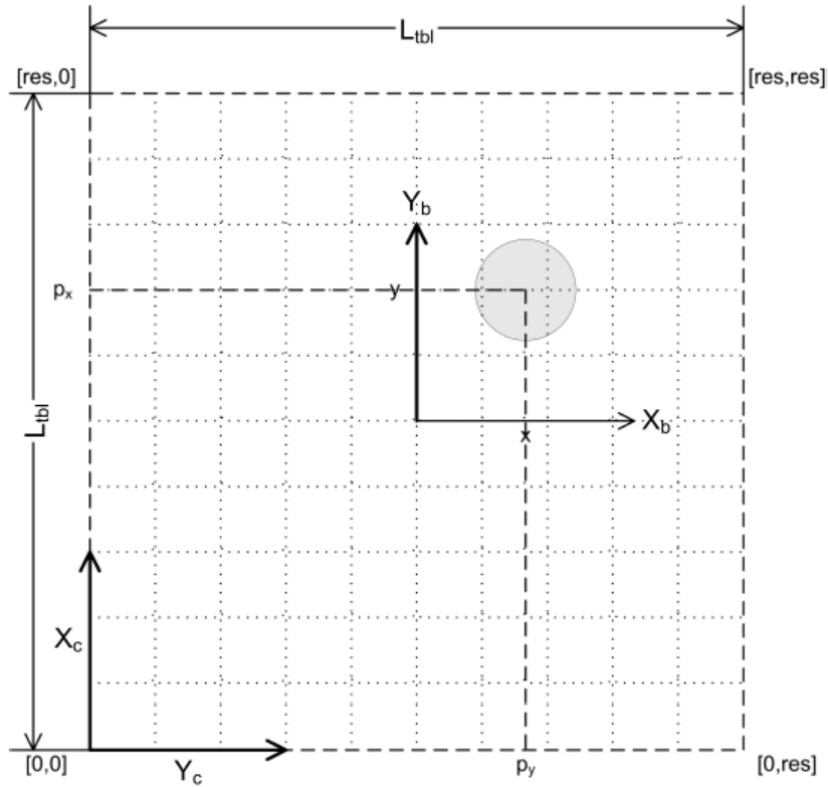
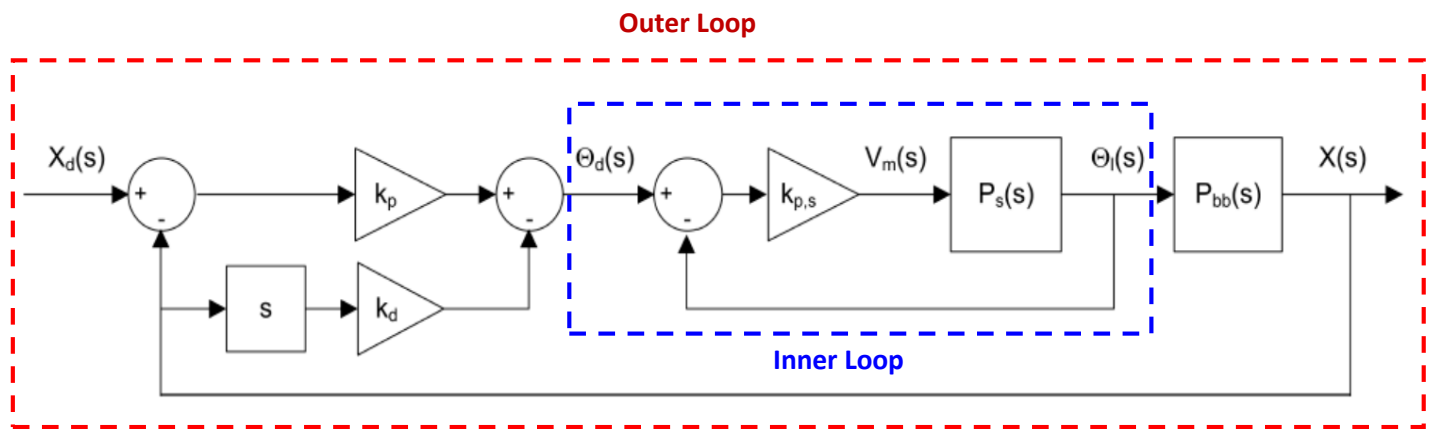

Figure 6: Transition between the camera and model coordinate systems
Figure 7: Block diagram of a single system axis
As depicted in figure 6, the camera calculates the position of the ball through a pixel-based system, as the data output is the pixel index (p_x, p_y). That will translate to metric position using the camera resolution, res (that is the amount of pixels in every axis). We would want to work in a square-based resolution (i.e. the same amount of pixels for x and y axes).
NOTE – the camera's pixel index is not intuitive, meaning that the x and y axes have changed positions (see figure 6).
1. The loop at figure 7, and the content of equation (6), depict a situation where the derivative term applies only on the feedback signal and not the whole error signal. Such a way to close the loop is called “Derivative on Measurement”. Explain what it is good for, and what might happen in some occasions where we derive the entire error signal.
3. The ping-pong ball can be modeled as a hollow sphere with mass m . Derive an expression for a hollow-sphere moment of inertia (can use the Wikipedia), substitute it into equation (2) instead of J_b and simplify the expression. How would the system dynamics be affected if the ball mass was doubled? And what if its radius was doubled? What important detail can we learn about the system from these facts?
4. The prefix of θ in equation (3), along with the simplification done in the previous question, is actually the parameter K_{bb} . Calculate its numerical value using the table found in appendix 1 at the end of the brief.
7. Look at the explanation in section 3.3. and at figure 6. Derive expressions for two functions: $y = f(p_x, L_{tbl}, res)$, $x = f(p_y, L_{tbl}, res)$, in such a way that given the arguments, we could convert the ball position from discrete camera pixels (measured from the plate’s corner) into the model coordinate system (in cm, measured from the middle of the plate).